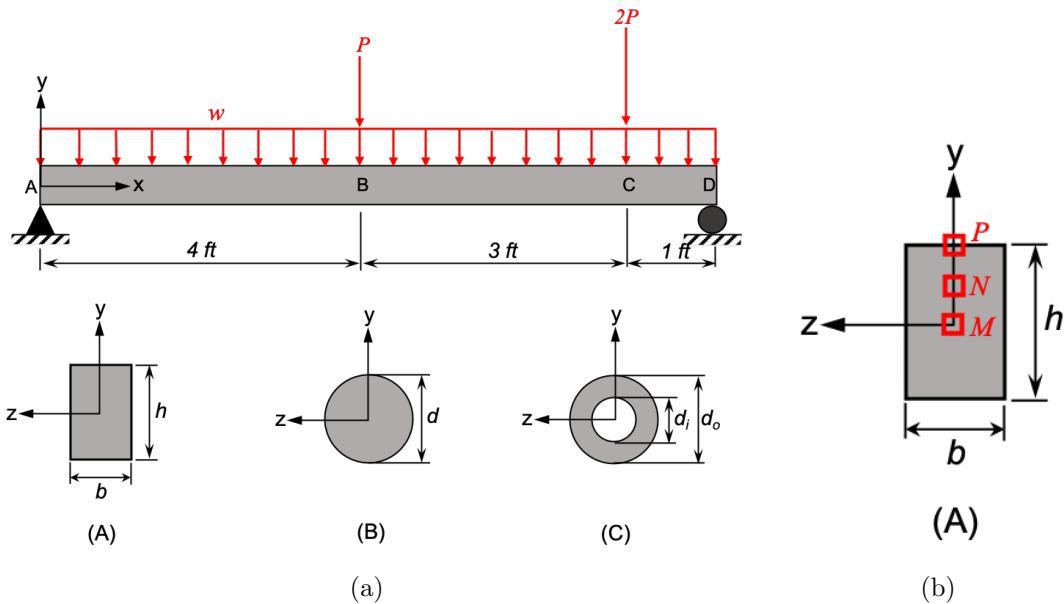

Figure 5
5. A wood beam is supported and loaded as shown in Fig. 5. The weight w of the beam is to be considered, using $\gamma = 50 \text{ lb/ft}^3$ for the specific weight of the wood. The maximum shear stress in any cross-section (along the y -direction) must not exceed $\tau_{\text{allow}} = 160 \text{ psi}$.
- Calculate the maximum allowable value of the loading P for the solid rectangular cross-section (A), with dimensions $b = 2.5 \text{ in}$ and $h = 6 \text{ in}$.
- Calculate the maximum allowable value of the loading P for the solid circular cross-section (B), with diameter $d = 6 \text{ in}$.
- (c) Calculate the maximum allowable value of the loading P for the hollow circular cross-section (C), with outer diameter diameter $d_o = 6$ in and inner diameter $d_i = 3$ in.
- (d) Show the state of stress at three places (M, N, P) on the cross-section (A) as shown in Fig. 5(b). The co-ordinates for these points are: